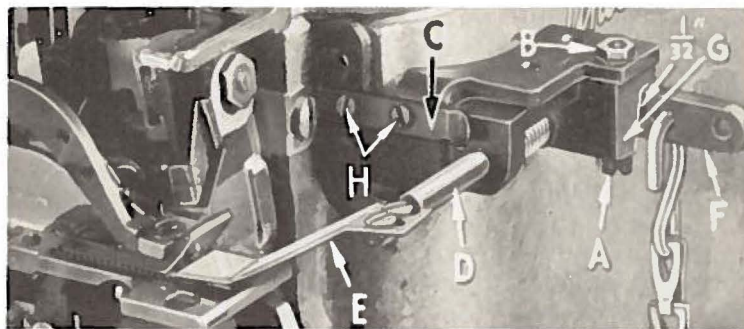
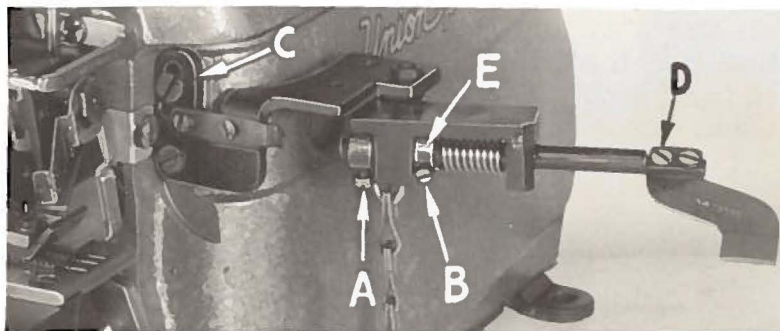

Fig. 18
Fig. 19
Styles 39500 FT, FU, GD, GL and GT are equipped with an auxiliary pressure plate assembly (Fig. 18) which operates in conjunction with the presser foot.
1. With assembly in operating position, check to be sure latch spring (C, Fig. 18) is in notch of shaft bracket (G) when shaft bracket is up against the front of bracket (C, Fig. 19). If adjustment is necessary loosen screws (H, Fig. 18) and position latch spring.
2. Swing assembly out of operating position and see that it hinges freely on its pivot. Adjustment is made for screw (A, Fig. 18) and nut (B).
3. Adjust the shaft (D) laterally so that the pressure plate (E) locates centrally over the differential feed dog. Loosen screws (A and B, Fig. 19) to do this. Making this adjustment will release the spring tension on the pressure plate. To re-gain the tension, swing the pressure plate out and turn the shaft (D, Fig. 18) in either direction about 180° from operating position and tighten screw (B, Fig. 19).
4. With the differential feed dog down below the surface of the throat plate, and the pressure plate resting on the throat plate with the maximum pressure the spring will allow, there should be about 1/32 inch clearance between the operating lever (F, Fig. 18) and the hinge block (G). To make this adjustment loosen screw (A, Fig. 19) and move lever to desired position.
5. With the differential feed dog at its highest point of travel, raise or lower the mounting bracket (C, Fig. 19) so that the auxiliary pressure plate is parallel with feed dog teeth.
6. Adjust the pressure plate in or out towards presser foot, maintaining it parallel with the feed dog, so that there is sufficient clearance between the end of plate and presser foot to permit free passage of the thickest part of the top ply being sewn. Use screws (D, Fig. 19) for this adjustment.
7. There are two spring anchoring holes in collar (E, Fig. 19) which may be used for increasing or decreasing spring tension on auxiliary pressure plate.
8. A chain is provided for raising the auxiliary pressure plate in conjunction with the presser foot. Couple this chain from the operating plate lever (F, Fig. 18) to the knee press rod that is part of the knee press assembly used to lift the presser foot. The presser foot should be raised before the pressure plate and the chain is normally attached to the pressure plate operating lever at the side hole.